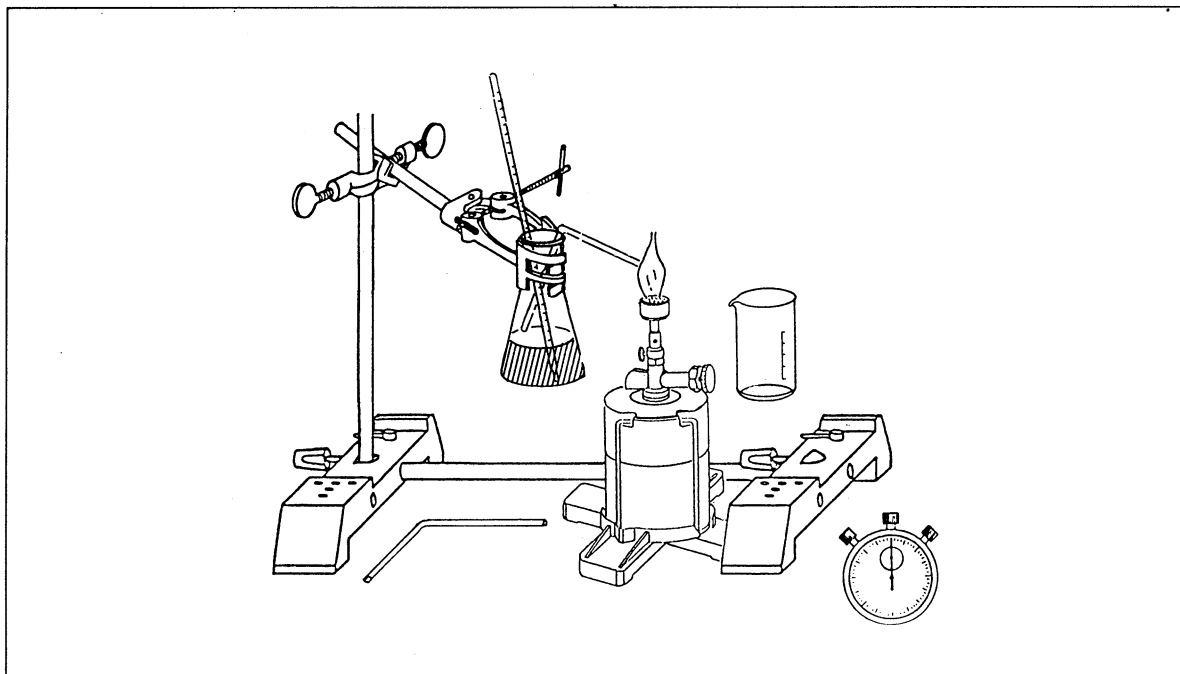

Fig. 1 Experimental setup for investigating thermal conductivity in solid bodies
1. Set up a stand as shown in fig. 1.